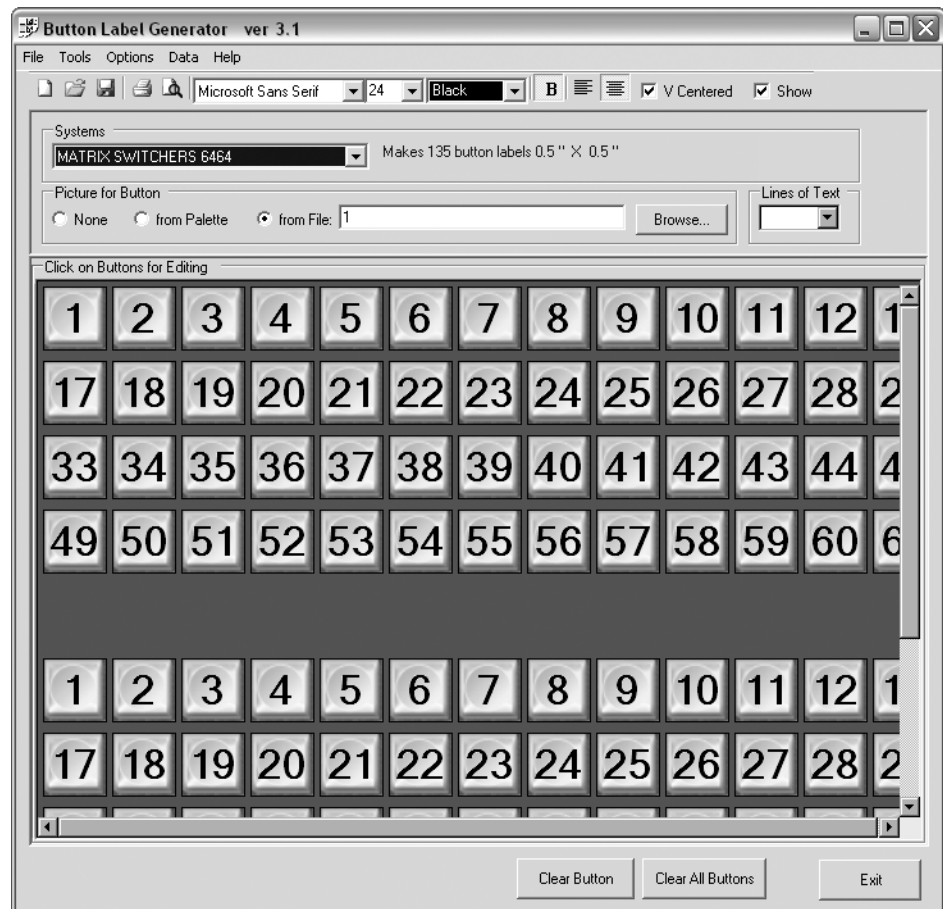

Figure 5-18 — Extron’s Button-Label Generator window
1. To run the Button-Label Generator program, click **Start > Programs > Extron Electronics > Button Label Generator > Button Label Generator**. The Button-Label Generator window appears (figure 5-18).